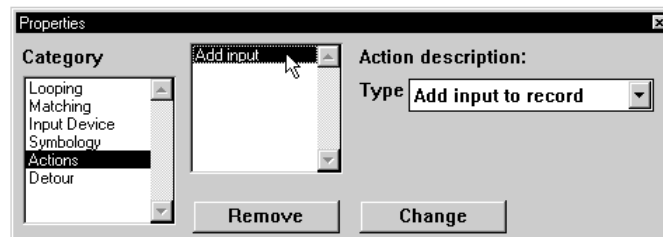

Figure 4-49 Add Input Action Selected
23. Select **Add input** in the action list (Figure 4-49).